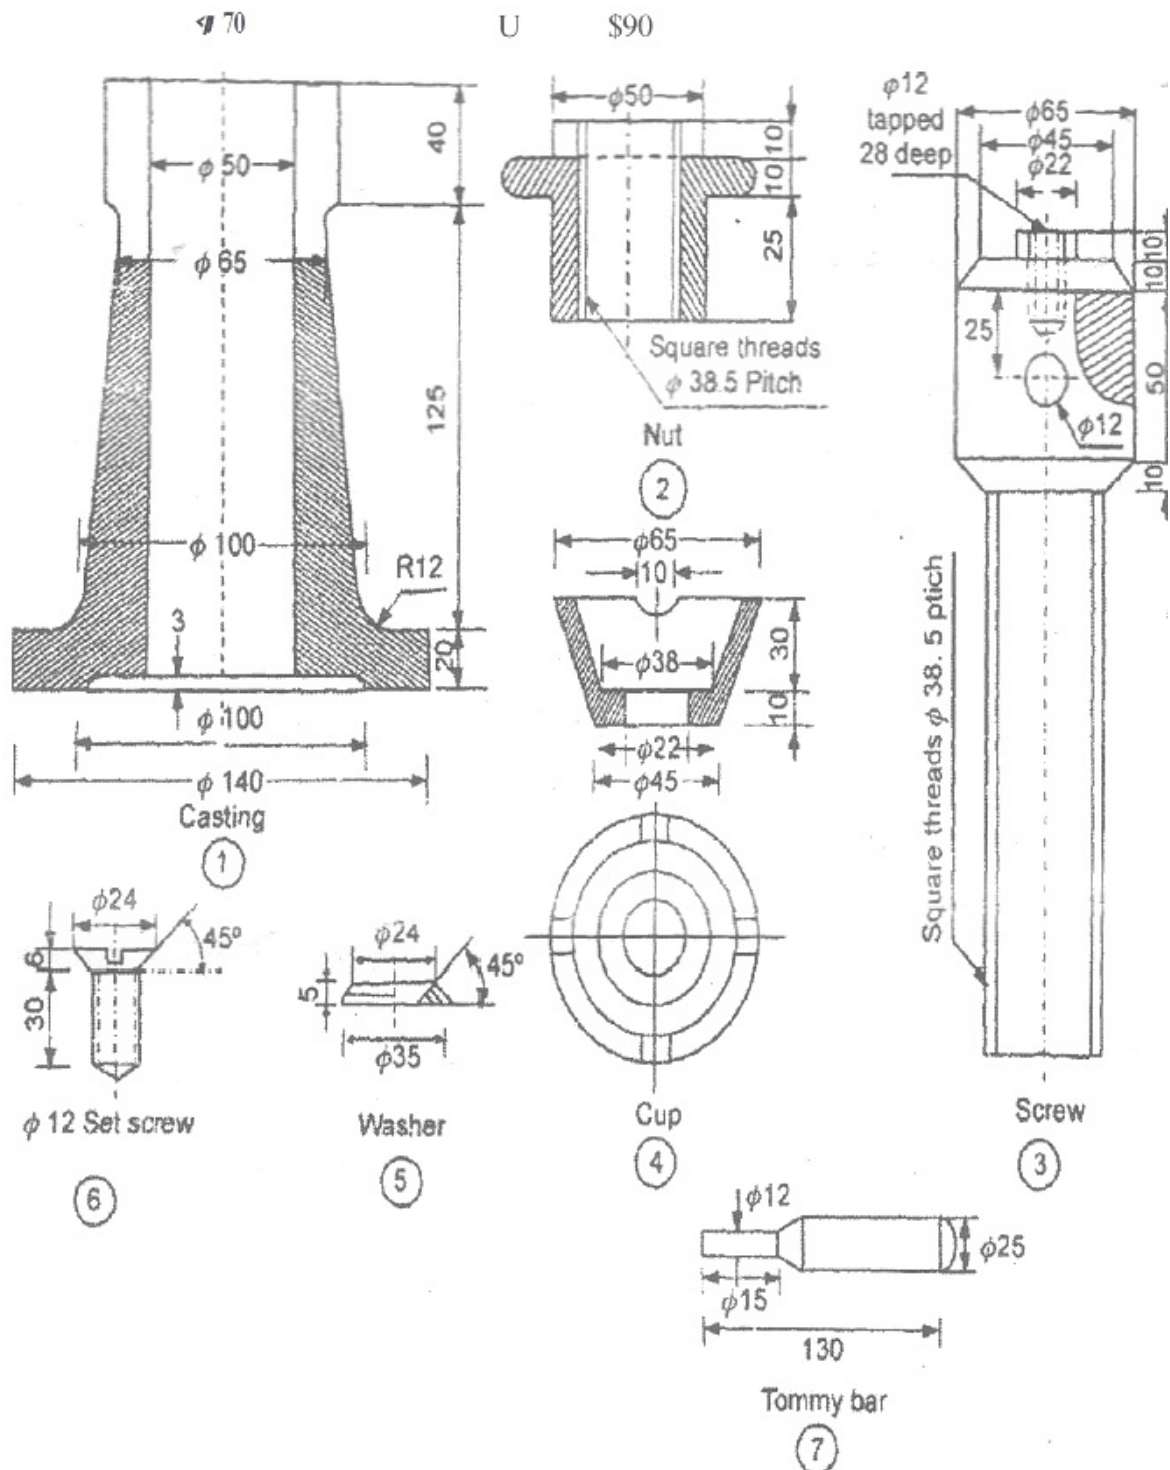

FIG.2
9. Fig. 2 shows the details of a screw-jack. Draw the following views of the assembly to some suitable scale :